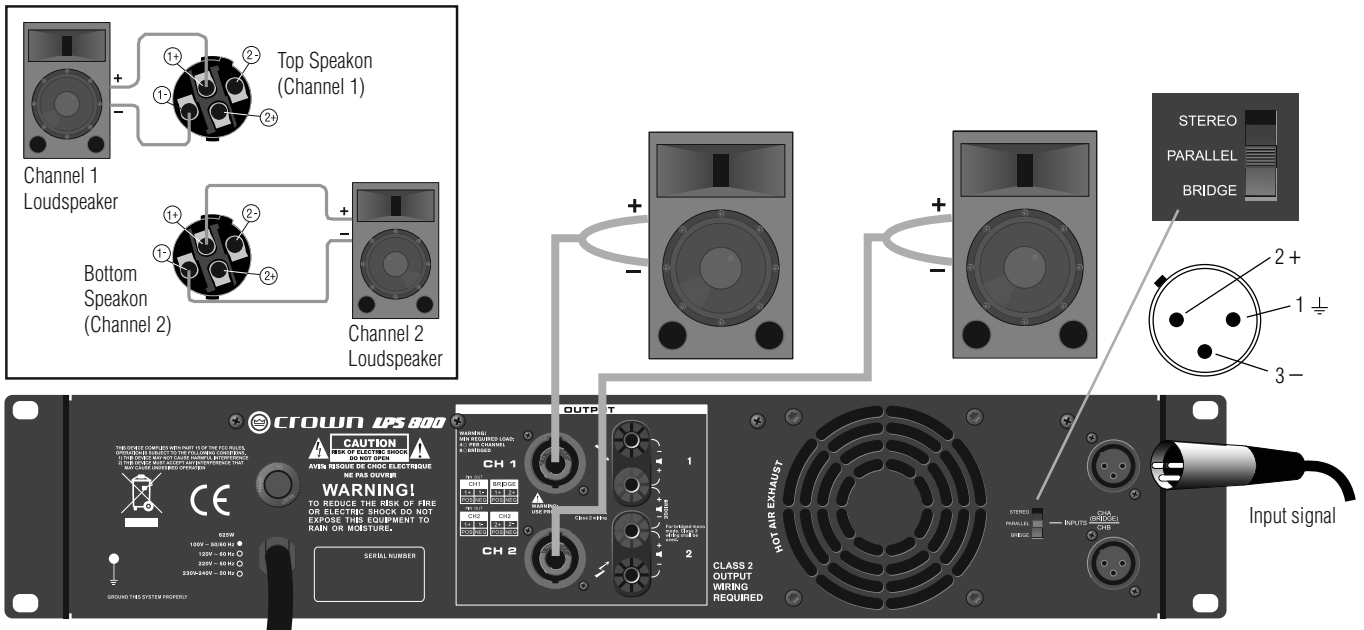

Figure 7. Parallel Wiring With Speakon® Connectors
1. See Figure 7. On the back panel, set the Output Mode Switch to PARALLEL.